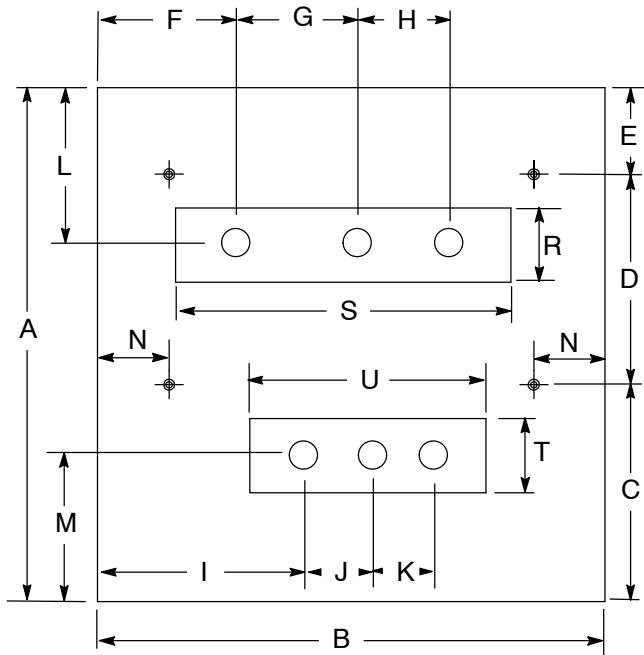
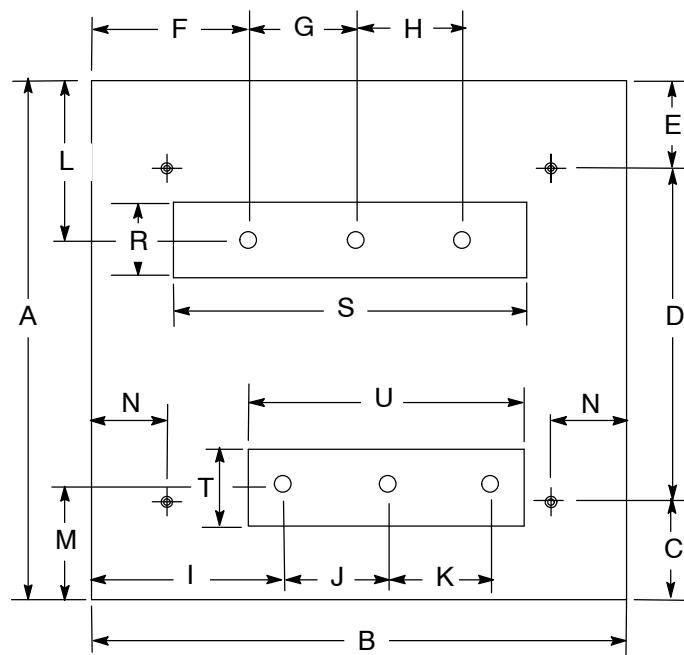
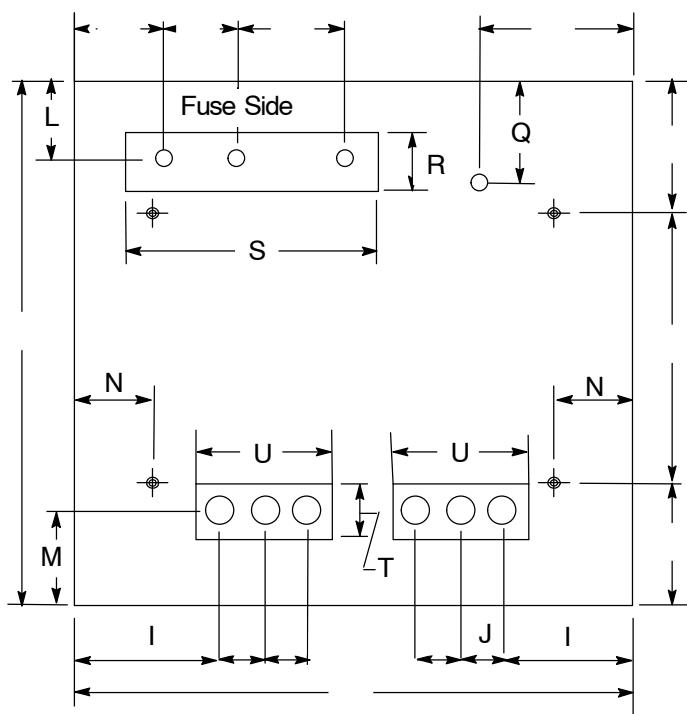
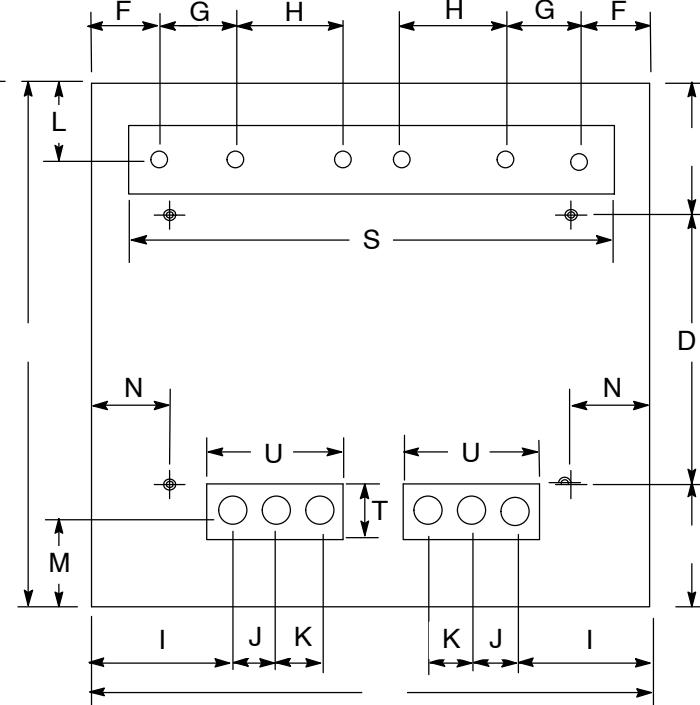

Figure 7
Figure 8
Figure 9
Figure 10
1. Figure 7, Figure 8, Figure 9, and Figure 10 on Page 10, and Figure 11 on Page 11 depict the 14.4 kV units. The 25 kV units have different proportions. Use the exact dimensions from Table 7 on Page 12 for all the voltages.
1. Updated images of flat-pads to match pre-cast pads with window openings on Figures 8 through 10 on page 10 and Figure 11 on Page 11.